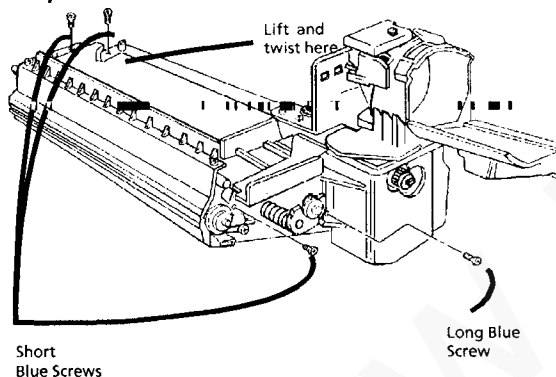

Figure 1. Removing the Developer Cover
- a. Place the Developer Assembly on a flat surface and remove the four (4) blue screws that secure the top panel to the developer assembly.
- b. Lift the developer cover at the rear corner as show in Figure 1 and twist loose.